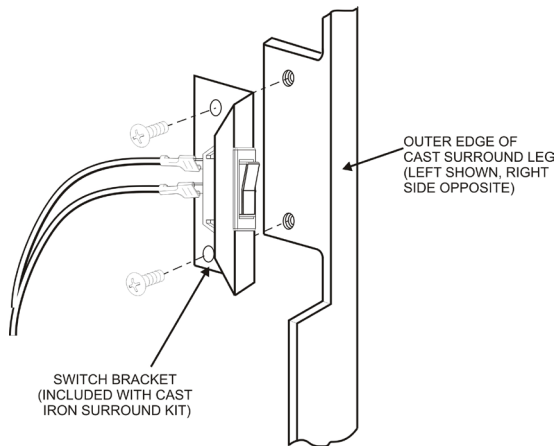

Figure 6
4. Install the switch bracket with screws as shown in **Figure 6** to the back of the cast surround leg.